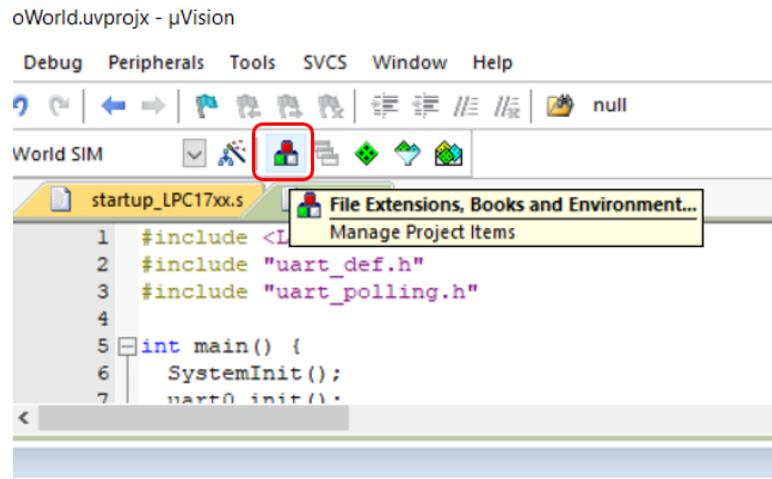

Figure 8.24: Keil IDE: Manage Project Items Button
1. Press the Managing Project Item button (see Figure 8.24).